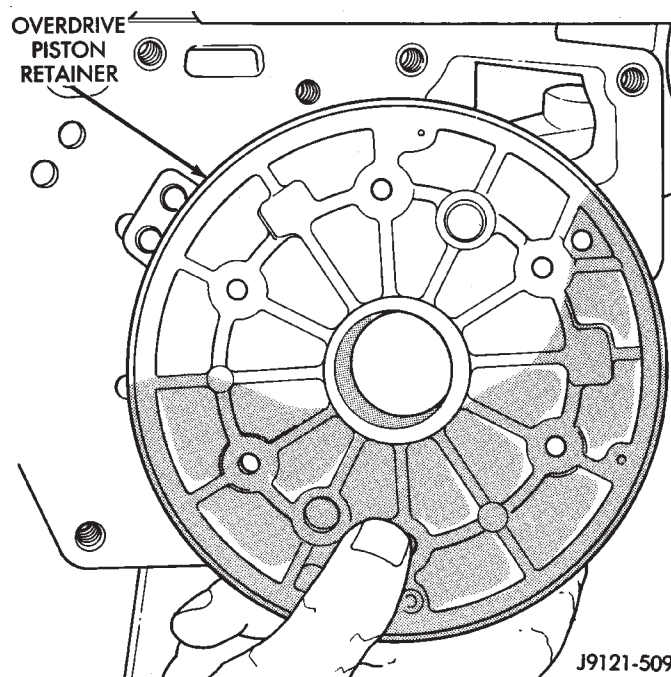

Fig. 37 Removing Overdrive Piston Retainer—46RH
(43) Remove overdrive piston retainer bolts and remove retainer from case (Fig. 37).
(44) Remove gasket from rear of case after removing piston retainer.